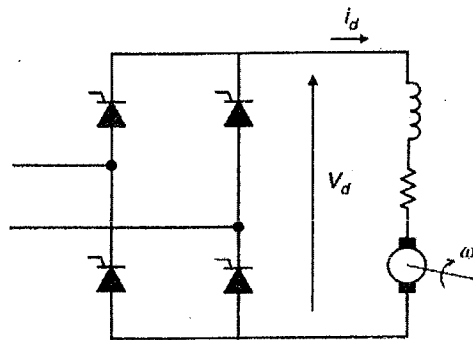

Figure 02
- d. Following figure 02 shows a fully controlled single phase full bridge rectifier circuit which is used to drive a dc motor. Show that the average dc voltage is given by